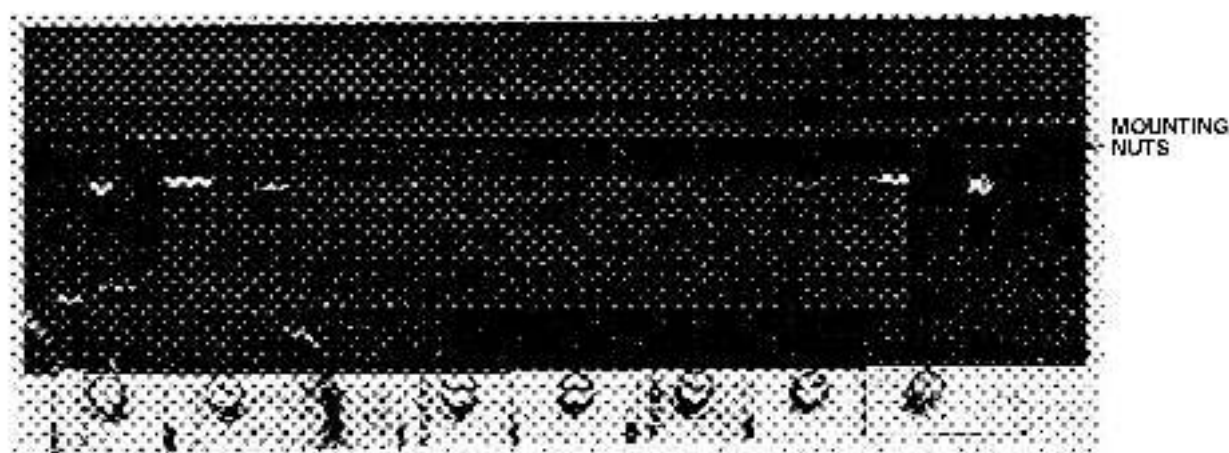

FIGURE 2
1. Remove the two nuts which secure the fan finger guard to the bottom side of the power module enclosure. See Figure 2.